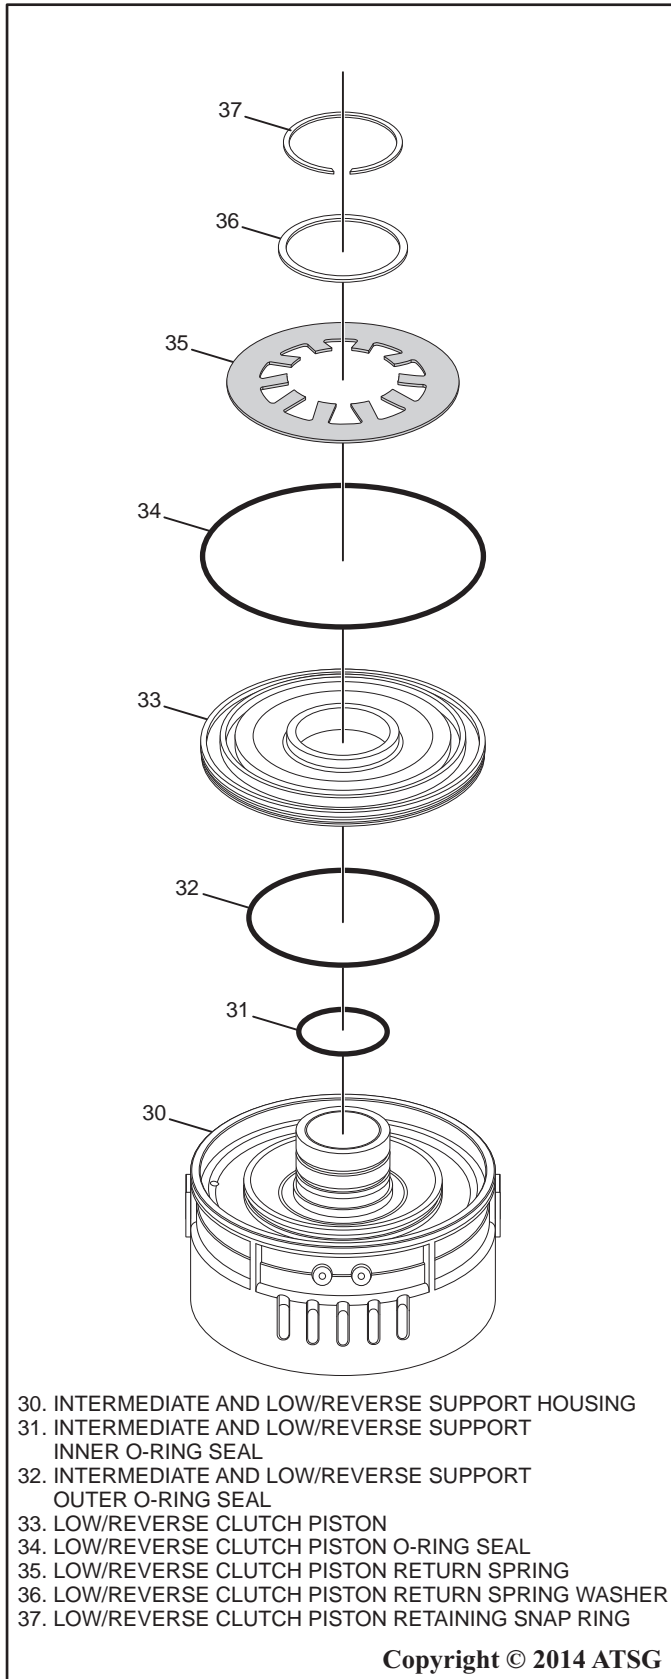

Figure 113
4. Install two new o-rings onto the intermediate and low/reverse support housing and coat the seals with a small amount of ATF or Trans-Jel® as shown in Figure 113.
5. Install a new o-ring onto the low/reverse clutch piston and coat the seal with a small amount of ATF or Trans-Jel® as shown in Figure 113.
6. Install the low/reverse piston into the intermediate and low/reverse support housing as shown in Figure 113.
7. Install the low/reverse piston return spring, and the piston return spring washer as shown in Figure 113.
8. Using ST Clutch Spring Compressor 307-525 or other similar clutch spring compressing tool, compress the low/reverse clutch return spring and install the low/reverse piston retaining snap ring as shown in Figure 113.